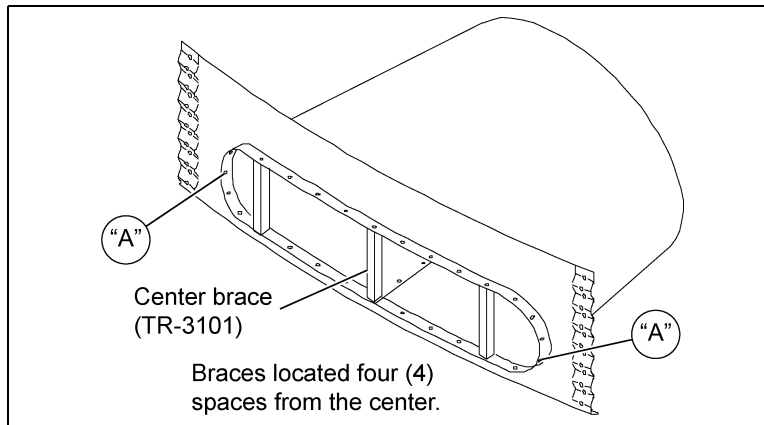

Figure 5
3. Align holes designated "A" and bolt them first. Place center brace into position and bolt top and bottom. Complete by bolting remaining holes and inserting remaining braces as shown in Figure 5.